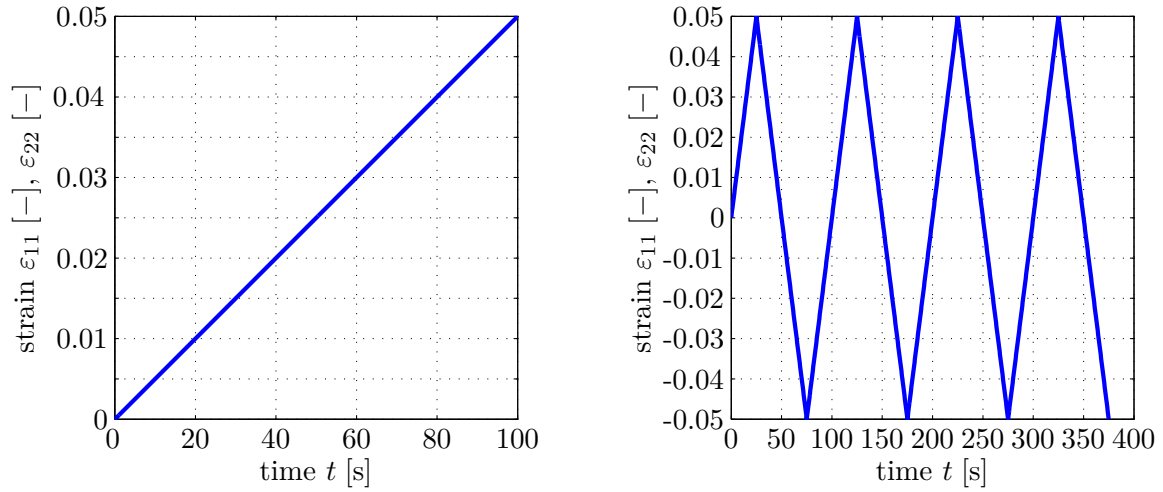

Figure 1: Equi-biaxial load cases to be investigated: Ramp function (left) and cyclic load (right).
2. Implement the above material model in *python* based on the constitutive driver used in the tutorials, applying load cases depicted in fig. 1 and making use of the set of material parameters shown in table 1. The exact algorithmic tangent operator shall **not** be implemented here. For simplicity, use a numerically determined tangent operator based on a forward differential as shown, e.g., in the routine `numericalTangent()` in the tutorials. Note that, in order to implement a numerical tangent, it is convenient to implement two separate functions for the calculation of stresses and the tangent operator, respectively.
To be able to investigate the anisotropic behaviour, an *equi-biaxial strain state* in $\mathbf{e}_1$ - and $\mathbf{e}_2$ -direction is to be applied, cf. fig. 1. Therefore, the strain-driven update in every time step has the format